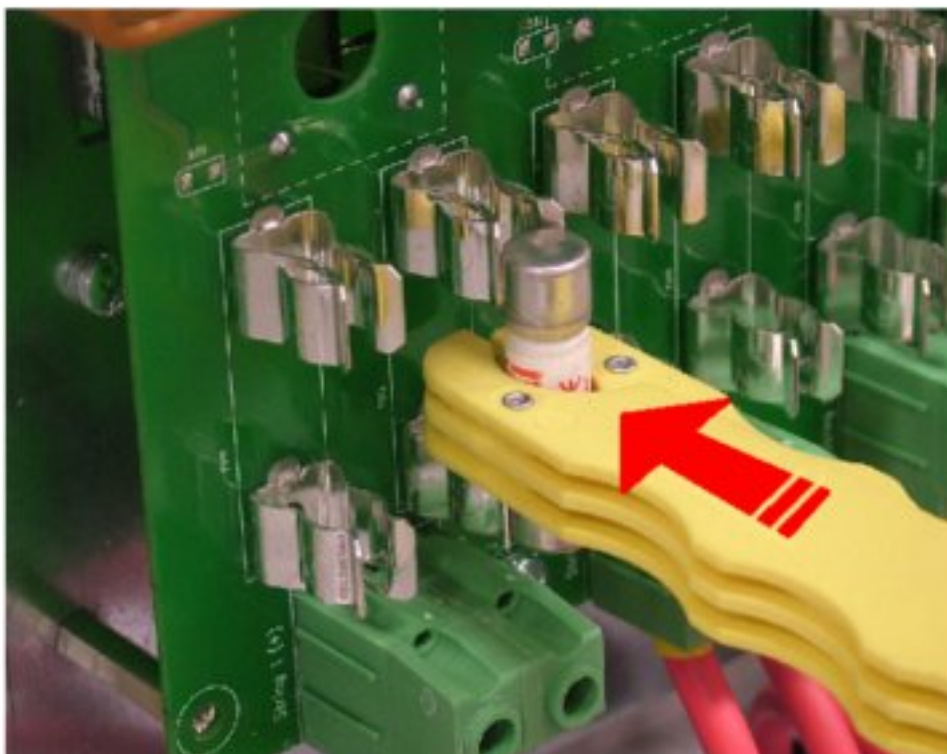

Figure 54: Fuse installation using the fuse extractor
- Use the special insulated fuse extractor. Please refer to Figure 54.